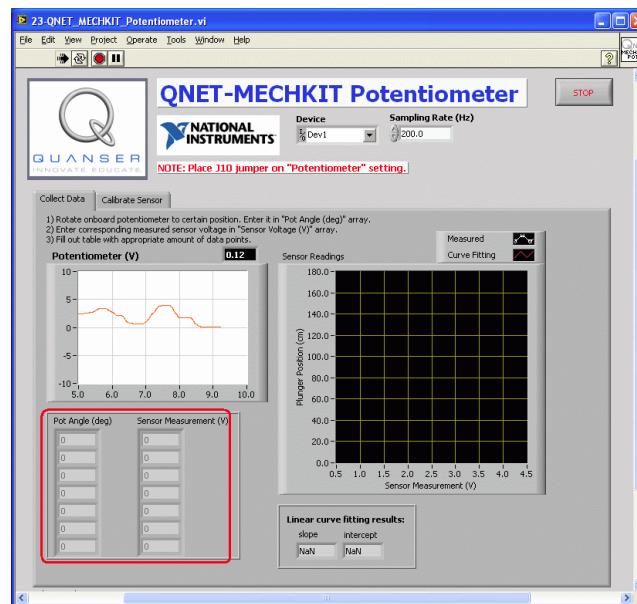
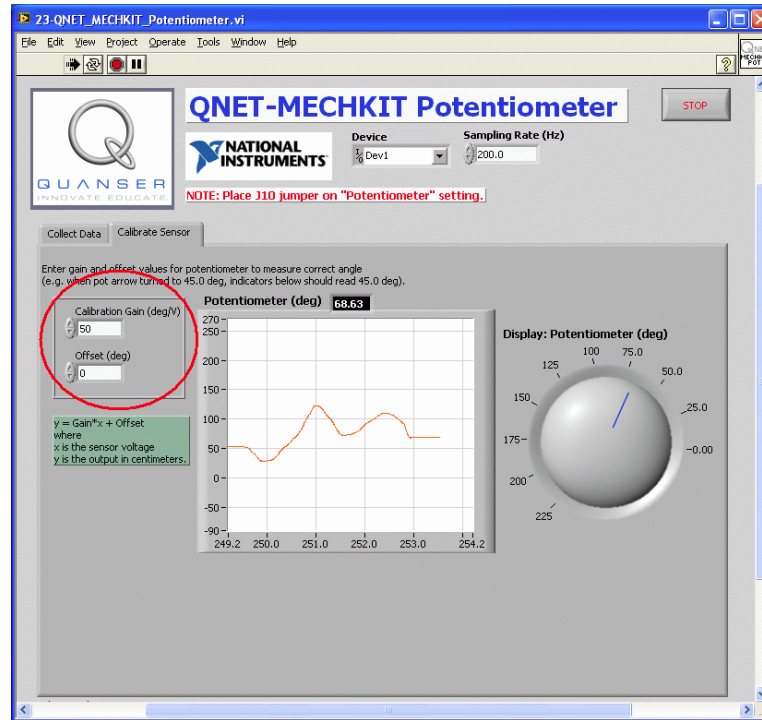

Figure 6.2: Collecting potentiometer data
Figure 6.3: Calibrating the potentiometer
The virtual instrument used to collect data using the potentiometer is shown in Figure 6.2. The virtual instrument used to calibrate potentiometer data is shown in Figure 6.3.
5. Enter the position in the Pot Angle (deg) array, as indicated in Figure 6.2.
6. Enter corresponding measured sensor voltage in Sensor Measurement (V) array (shown in Figure 6.2).
2. In the Calibrate Sensor tab, set the Gain and Offset controls, as indicated in Figure 6.3, to values such that the potentiometer measures the correct angle. Verify that the sensor is reading properly, e.g. when pot arrow is turned to 45.0 deg, the Display: Potentiometer (deg) knob indicator should read 45.0 degrees.